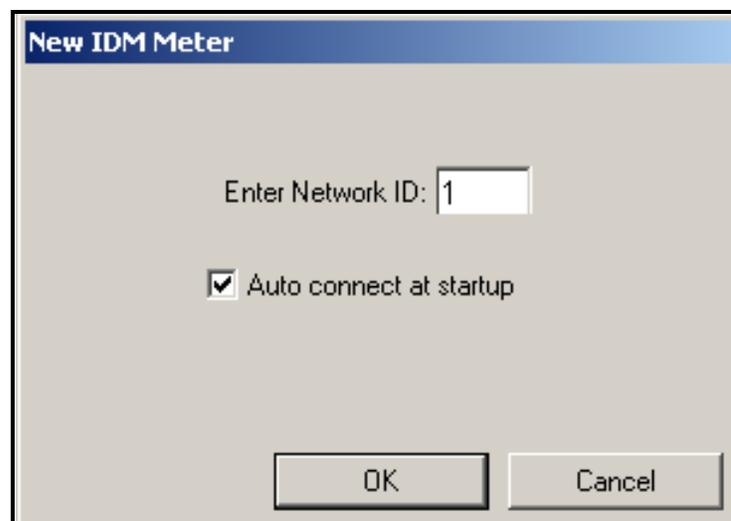

Figure 22: New IDM Meter Screen
4. The “*New IDM Meter*” screen (shown in Figure 22) opens. Enter the Network ID number for the meter, and click [OK].